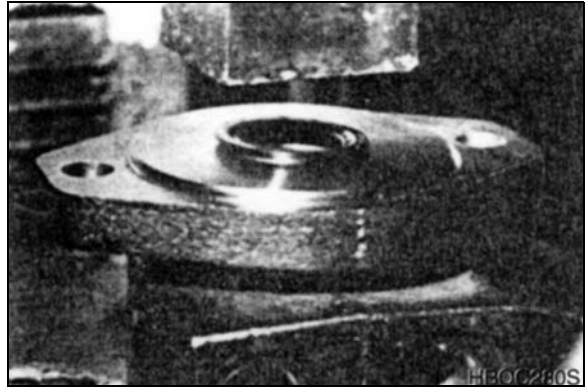

Figure 42
The Small Frame Series MG and MF Torqmotor™ dirt and water seal (20) must be pressed in until its' flange is flush against the housing. See Figure 42.